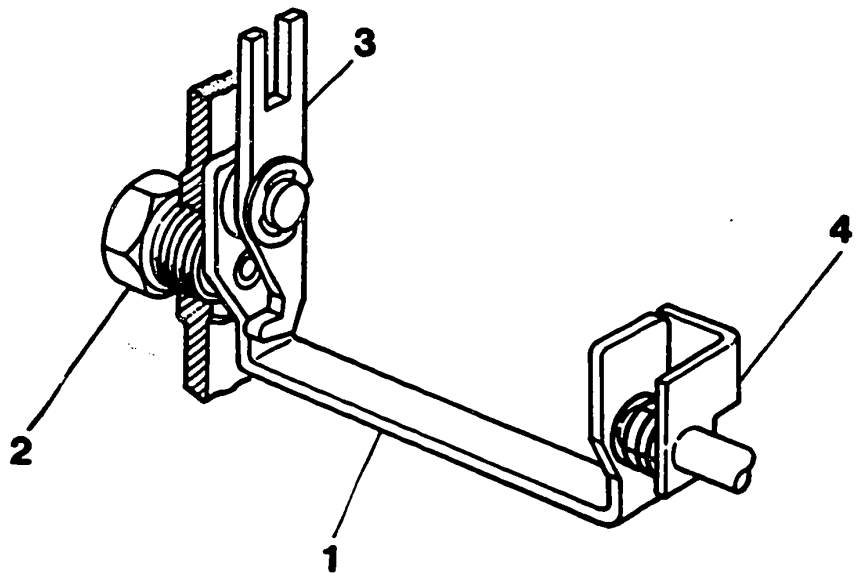

Fig. 5 Sensing-lever mechanism
A nut and a shaft are installed in the governor housing on the side opposite the control rod. A bushing is attached to the shaft. A U-lever fitted to the bearing pin of the sensing lever is installed between the shaft supported by the bushing and a guide screw as indicated in Fig. 5. The U-lever, the shaft in the bushing and the return spring (3) move as one assembly.